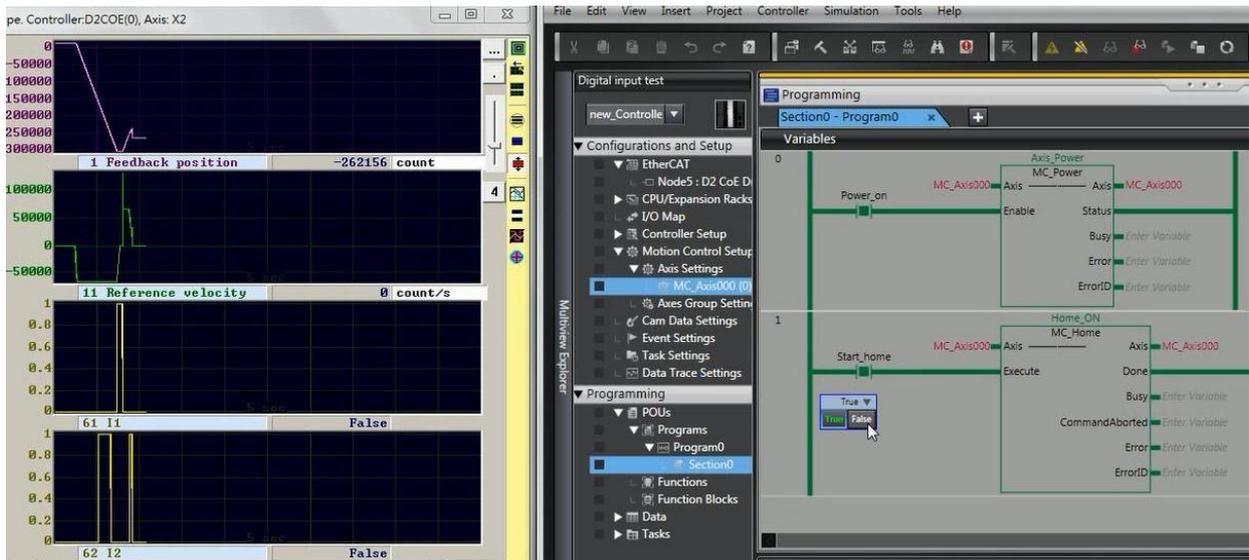

Fig. 5-50
- (8) Execute homing program.
- e. The homing result is given in Fig. 5-50.